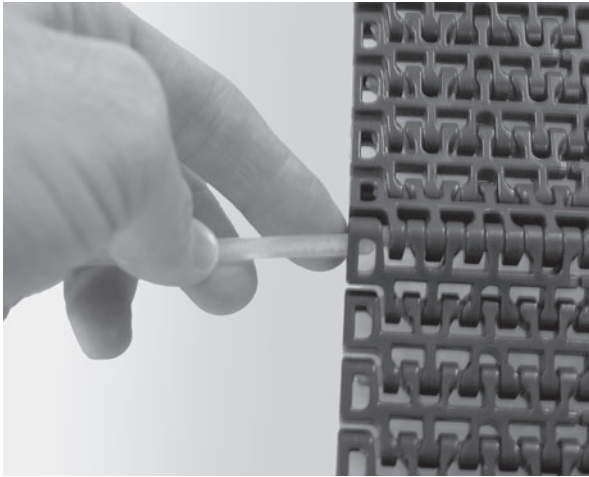

Figure 52
2. Use a second belt rod of the same size to push on the opposite end of the belt rod. (Figure 52).